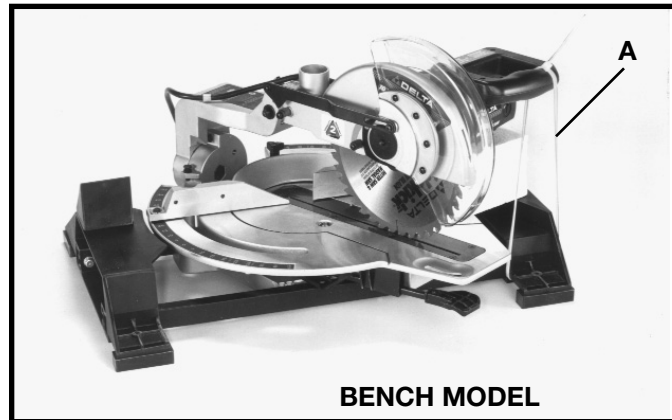
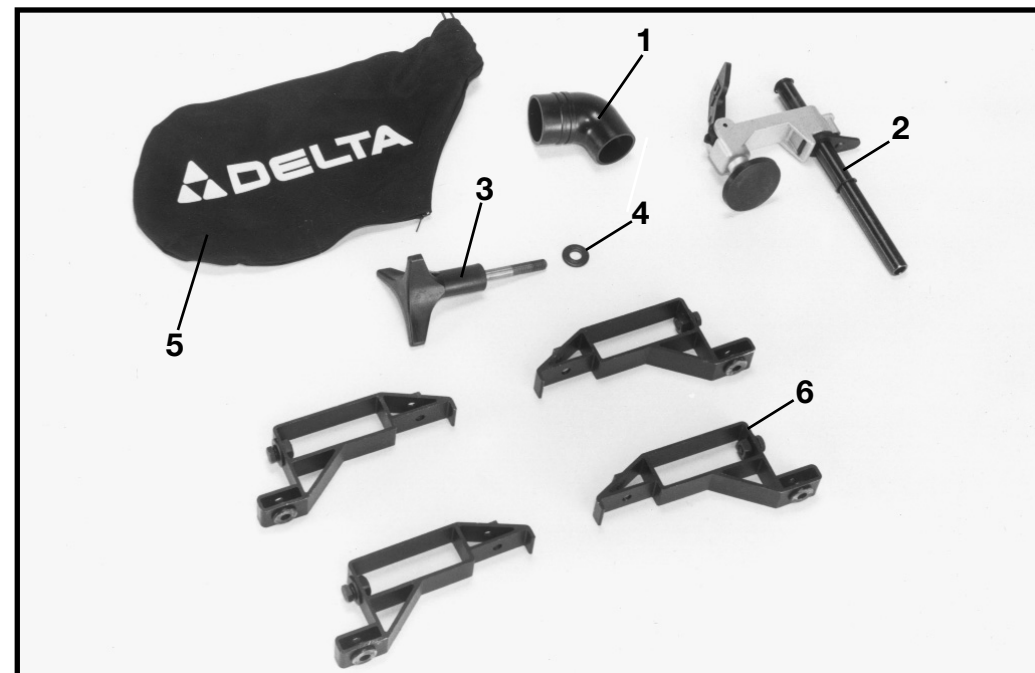

Fig. 2
Fig. 4
Your Sliding Compound Miter Saw is shipped in one carton. Carefully remove the machine and all loose items from the shipping container. Remove the protective coating from all unpainted parts. This coating may be removed with a soft cloth moistened with kerosene (do not use acetone, gasoline, or lacquer thinner for this purpose). After cleaning, cover the unpainted surfaces with a good quality household floor paste wax. Figs. 2 and 3 illustrate the slide saw models removed from the shipping carton. Fig. 4 illustrates the loose items supplied with your machine. **IMPORTANT:** Do not remove the cable tie (A) Figs. 2 and 3 that is holding the cuttinghead in the down position until the machine is placed on a workbench or the stand model has been set in an upright position.